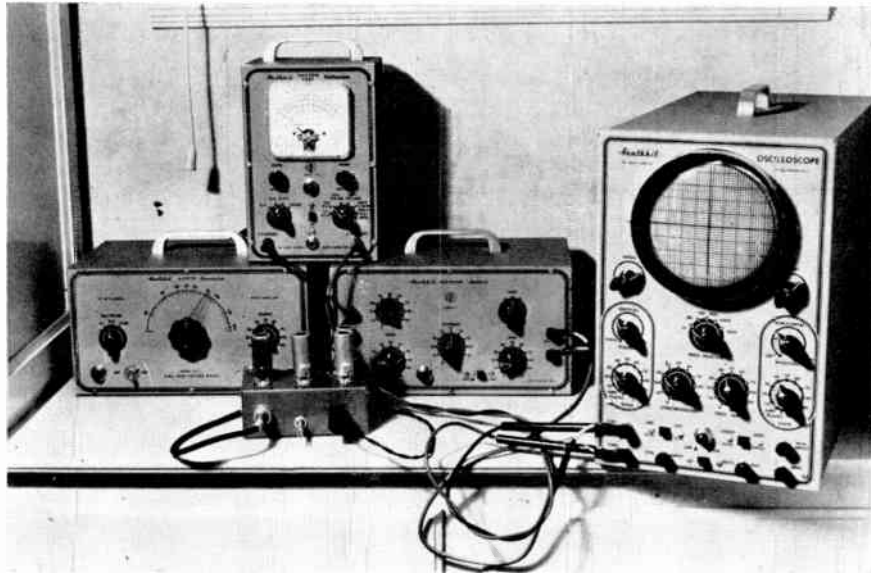

Fig. 1 Setup for audio amplifier checking. A sine-square wave audio generator, electronic switch, a-c vtvm and oscillograph are shown
EFFICIENT audio amplifier testing calls for checking of (1) frequency response, (2) gain, (3) distortion, and (4) power output. No overhaul of p-a equipment may be considered complete unless these four performance characteristics have been examined by the technician. Instruments required for complete amplifier testing are (1) sine and square-wave audio oscillator tuneable from 20 cycles to 20,000 cycles, (2) a.c. vacuum tube voltmeter, (3) electronic switch, and (4) oscilloscope. They are shown in Fig. 1, set up for amplifier checking.